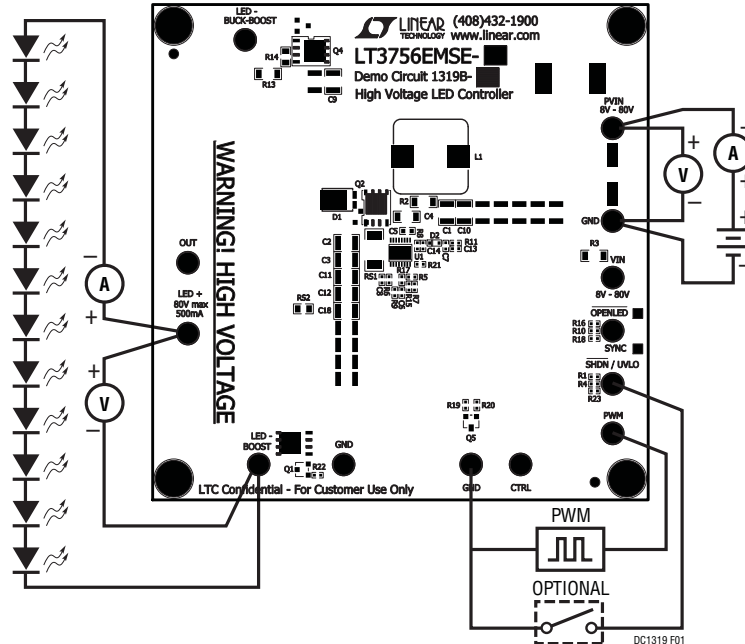

Figure 1. Test Setup for the DC1319B-A/DC1319B-B
1. Connect a string of LEDs with forward voltage less than 80V, but greater than the PV_{IN} voltage, to the LED⁺ and LED⁻ (BOOST) terminals on the PCB as shown in Figure 1.